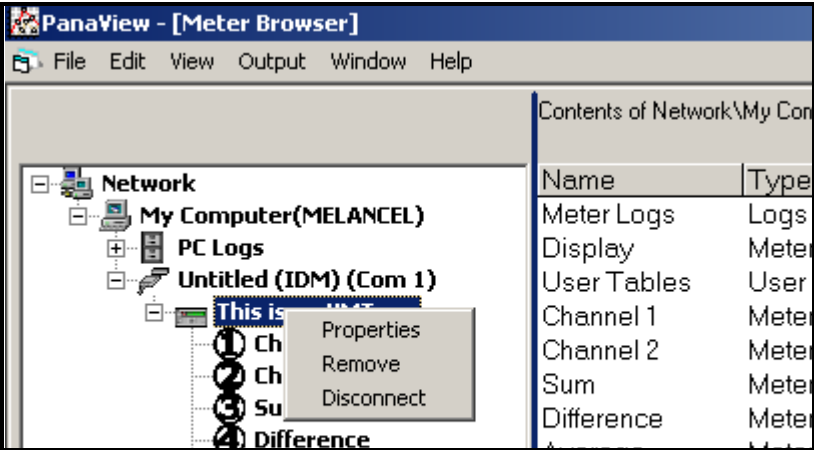

Figure 47: Properties Option
- 2. Right-click on the highlighted XMT868i and select the *Properties* option, as shown in Figure 47.